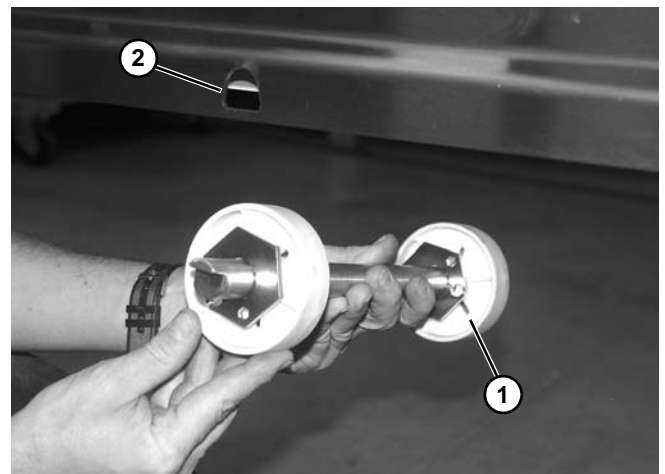

**Figure 79**
2. Turn bearing (**Figure 79, item 1**) to align with slots (**Figure 79, item 2**) and anti-rotation nub (**Figure 79, item 3**), as shown, in motor mount. Then remove bearing.